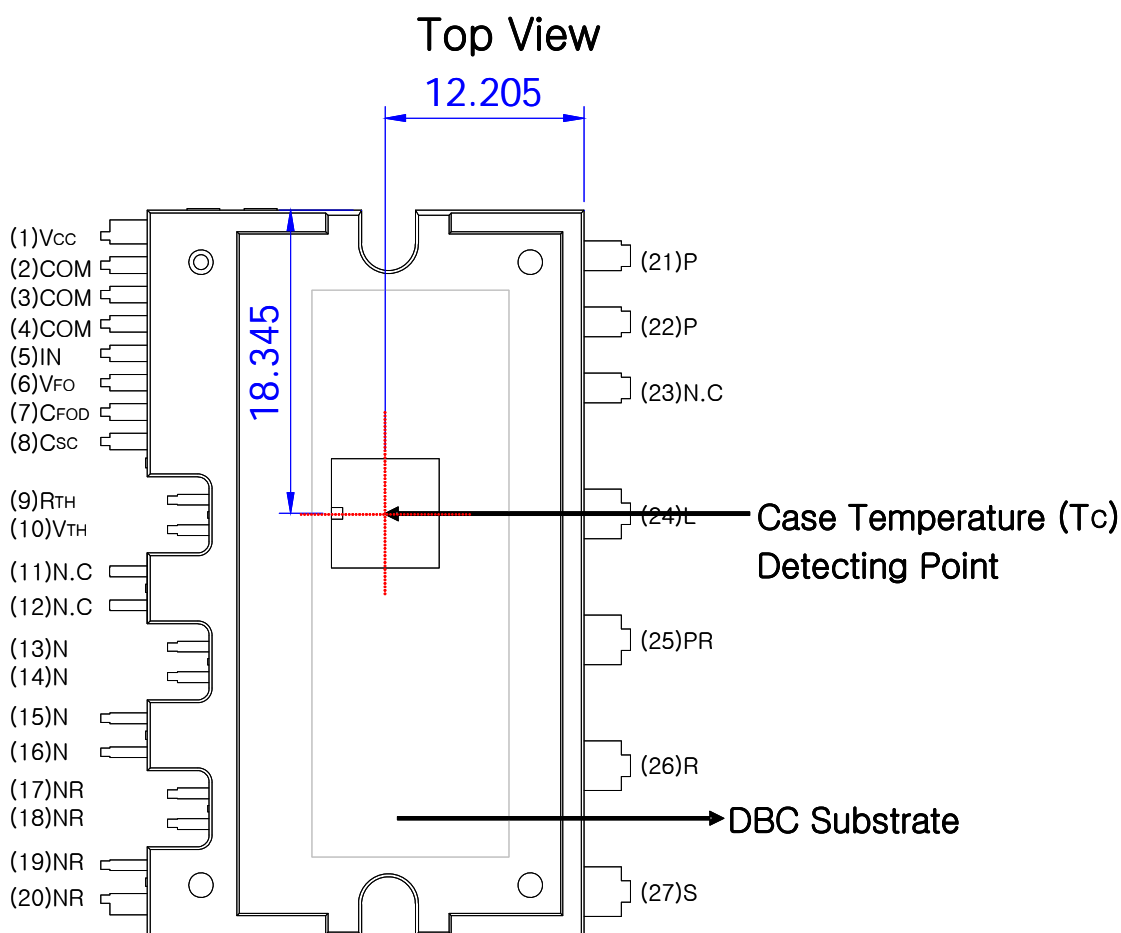

Figure 2. Top View
1. For the measurement point of case temperature(T_c), please refer to Figure 2.